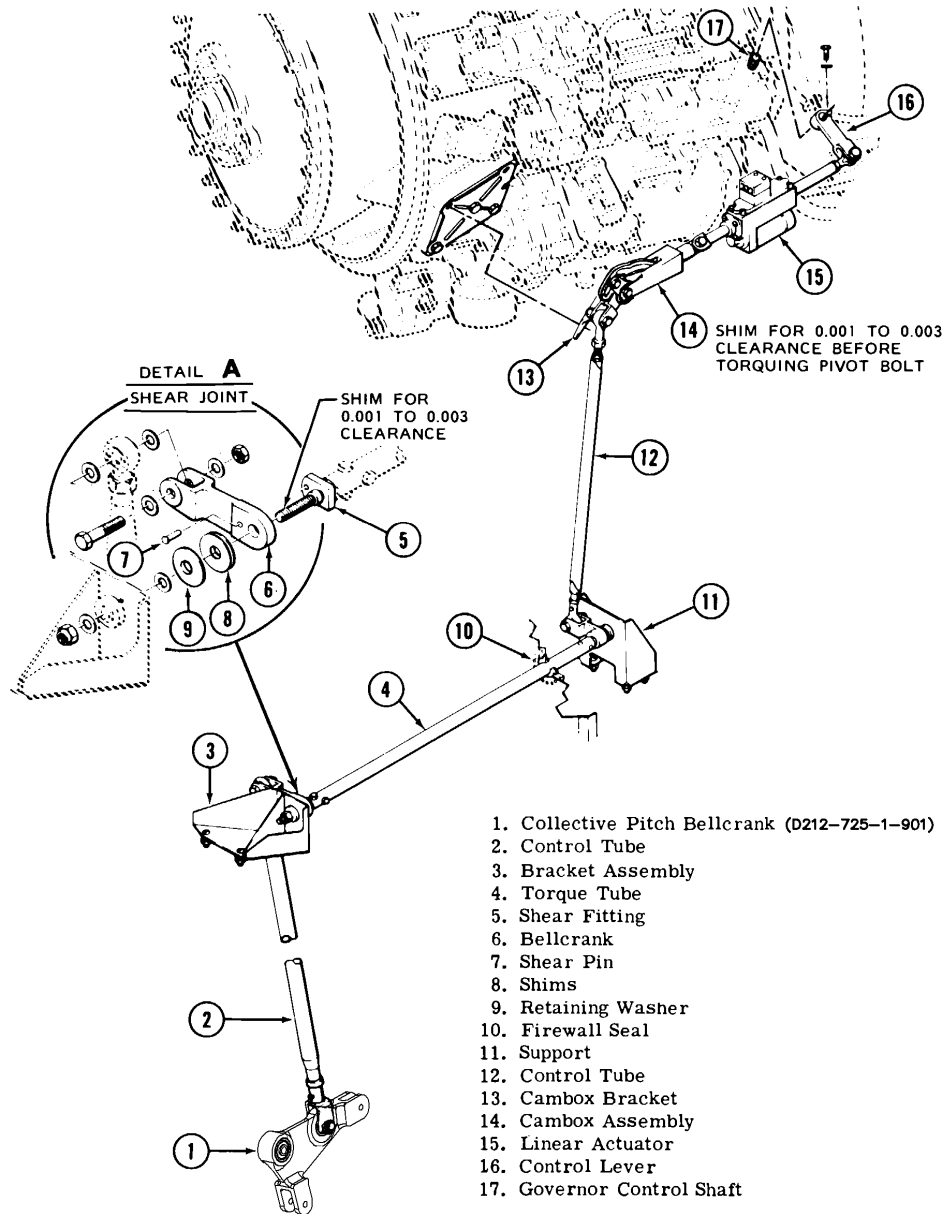

Figure 76-1. Droop Compensator Controls
Bellcrank (6, Figure 76-1) is attached to torque tube (4) by means of a shear pin (7), which is designed to shear to allow unhindered operation of the collective pitch controls if the compensator linkage should malfunction.
76.2.1.1.2.1 Control lever (16, Figure 76-1).
76.2.1.1.6.3 Adjust control tube (2, Figure 76-1) so 0.020 shear wire will not pass through inspection hole of tube. Install bolt, washers and nut on bellcrank (6) and control tube (2).
76.2.1.2.2 Remove actuator (15, Figure 76-1).
76.2.1.6.1 Install bellcrank (6, Figure 76-1), torque tube (4), and associated parts as follows:
The electrically operated linear actuator (15, Figure 76-1) is controlled by the GOV RPM INCR/DECR switch on the pilots collective pitch control stick. The actuator moves a control lever (16) on the fuel control governor to change settings on the power turbine rpm. The droop compensator stabilizes rpm as powerplant load fluctuates with changes of main rotor pitch. This is provided by mounting the actuator to a cambox (14) which is mechanically linked to a bellcrank in the collective pitch control system.
76.2.2.1.1 Remove terminal cover with attaching screws from top of linear actuator (15, Figure 76-1). Disconnect and stow electrical leads. Reinstall cover.
76.2.2.2.1 Install cambox (14, Figure 76-1) as follows: